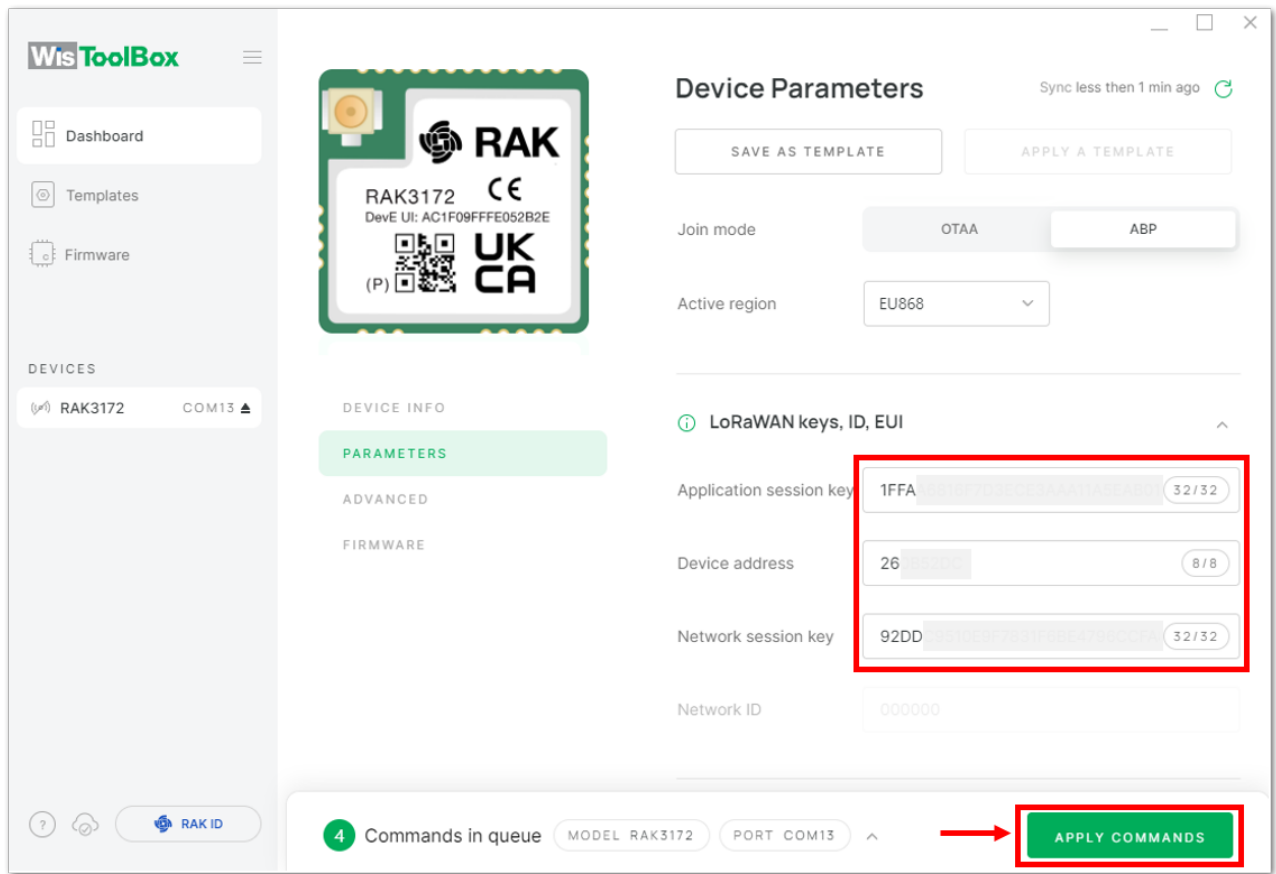

Figure 159: Used credentials from your console in WisToolBox dashboard
8. Then go back to the console where your RAK3172 End device is created previously. Then copy all the credentials from there. Those will be the ones to be used also in the WisToolBox dashboard. Once encoded into the dashboard, click **APPLY COMMANDS** to update your device, as shown in **Figure 159**.